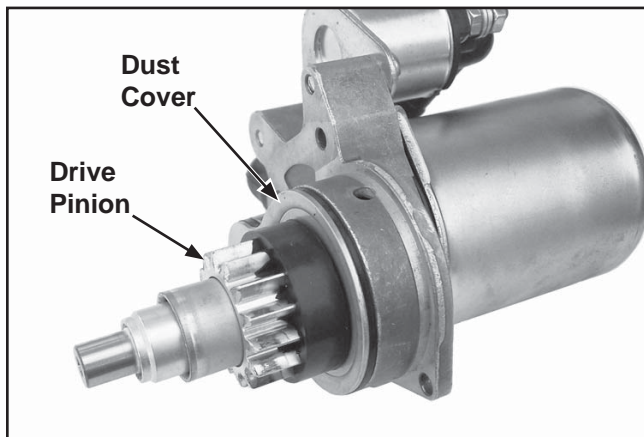

Figure 8-15. Reinstall Dust Cover and Drive Pinion.
8. Reinstall the dust cover and insert the drive pinion into the geartrain. See Figure 8-15.